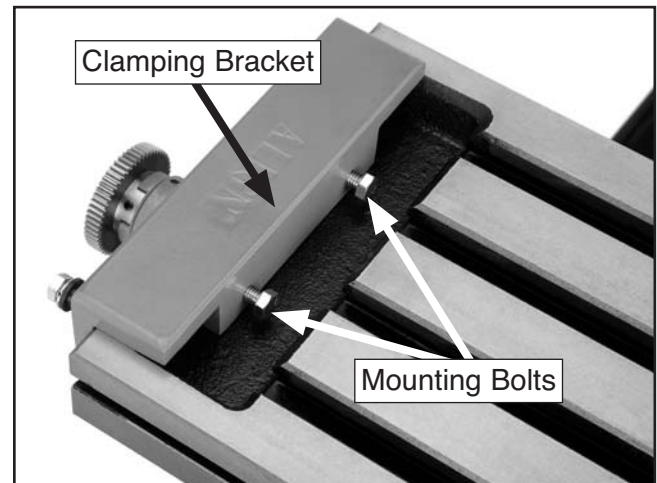

Figure 13. Clamping bracket assembly.
2. Set the clamping bracket assembly on the left end of the table. Mark the points on the table trough where the mounting bolts contact the table. Remove the clamping bracket assembly and spot drill to give the mounting bolts a small lip to “bite” without slipping on the rough cast surface. Set the clamping bracket assembly back on the end of the table and tighten down the mounting bolts (**Figure 13**).